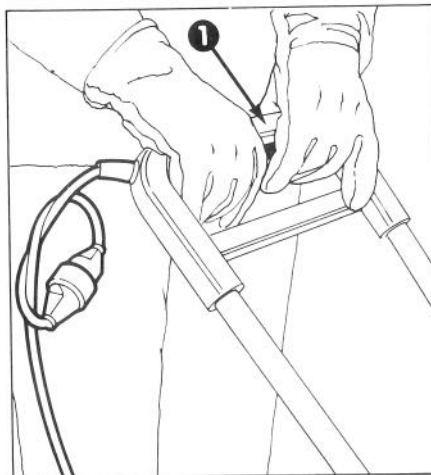

Figure 7
To start impeller, assure key is installed, squeeze control handle; to stop, release control handle (Fig. 7).
1. Squeeze the control handle to start the impeller (Fig. 7), tilt the S-120 forward until the impeller blades contact the ground. The impeller action will pull the S-120 forward allowing you to follow along behind with only a minimal effort required. The depth and weight of the snow will govern the forward speed.